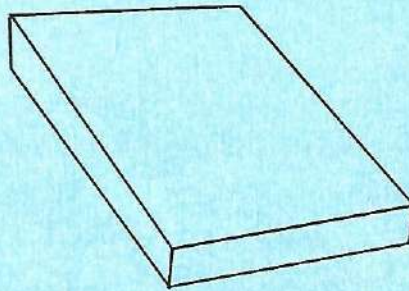

Figure 1.
- (I) pick iron;
- (II) creasing iron.
- (ii) The sheet metal in **figure 1** is made of mild steel. The workpiece has to undergo a beading process on one end. With the aid of sketches, outline a procedure of forming the bead on one side.